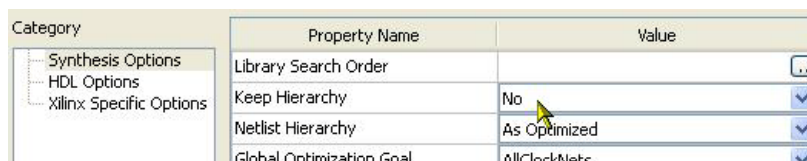

Figure 4-1: Setting Keep Hierarchy Option
- Set the Keep Hierarchy option to **No** as shown in Figure 4-1.